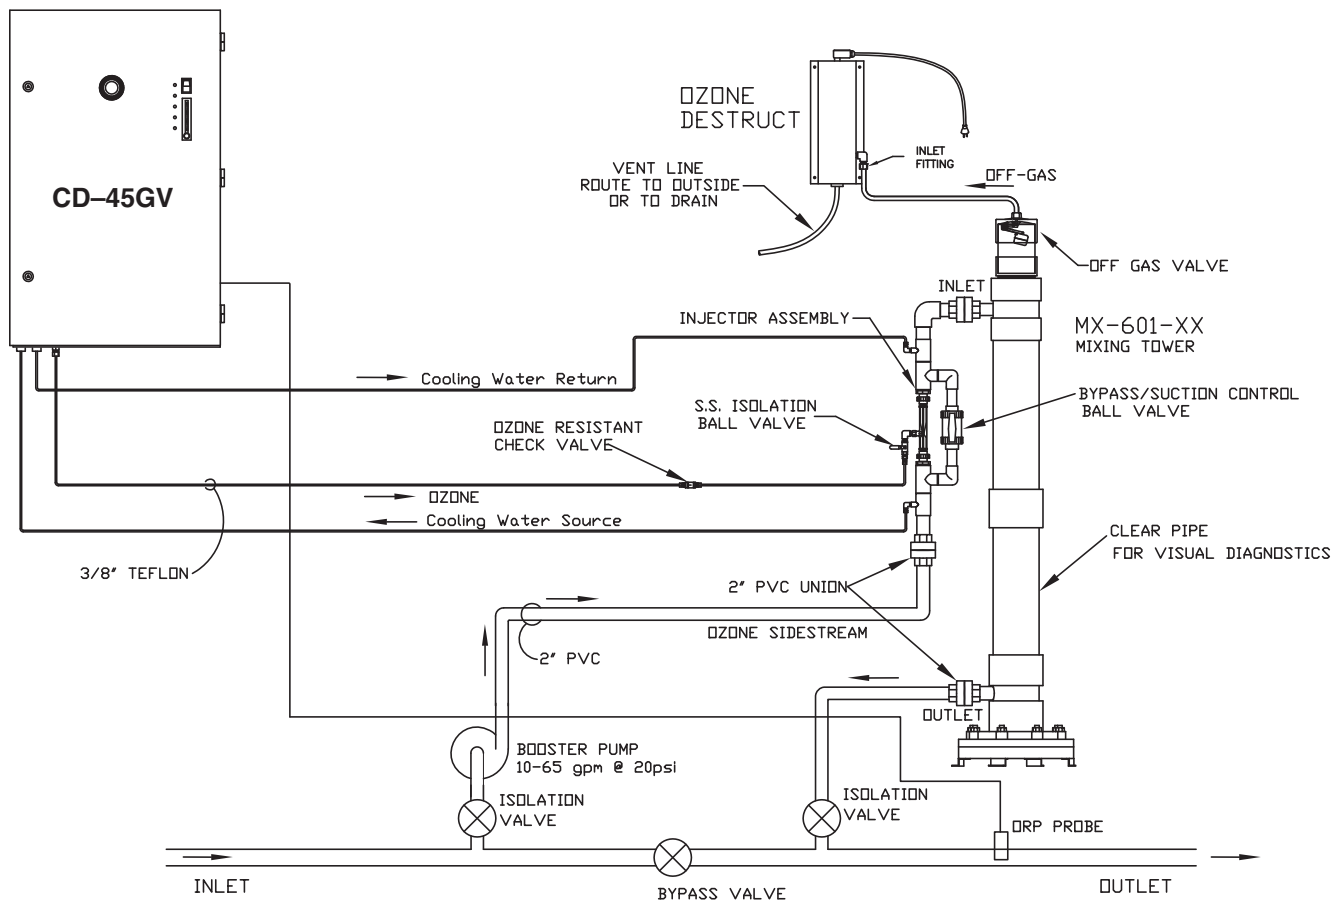

Figure 2: Plumbing Schematic - Example of Swimming Pool Application
2. Connect opposite end of ozone tubing to injector suction port. (Suction port fitting: 3/8" stainless steel compression fitting.) **See Figure 2.**
1/4" FPT connections are supplied on the generator. **See Figure 2.** Be sure that the tubing is appropriately matched with the marked inlet and outlet ports. Carefully match and connect to water plumbing as shown in Figure 2. Alternate method using connections at injector may be used.